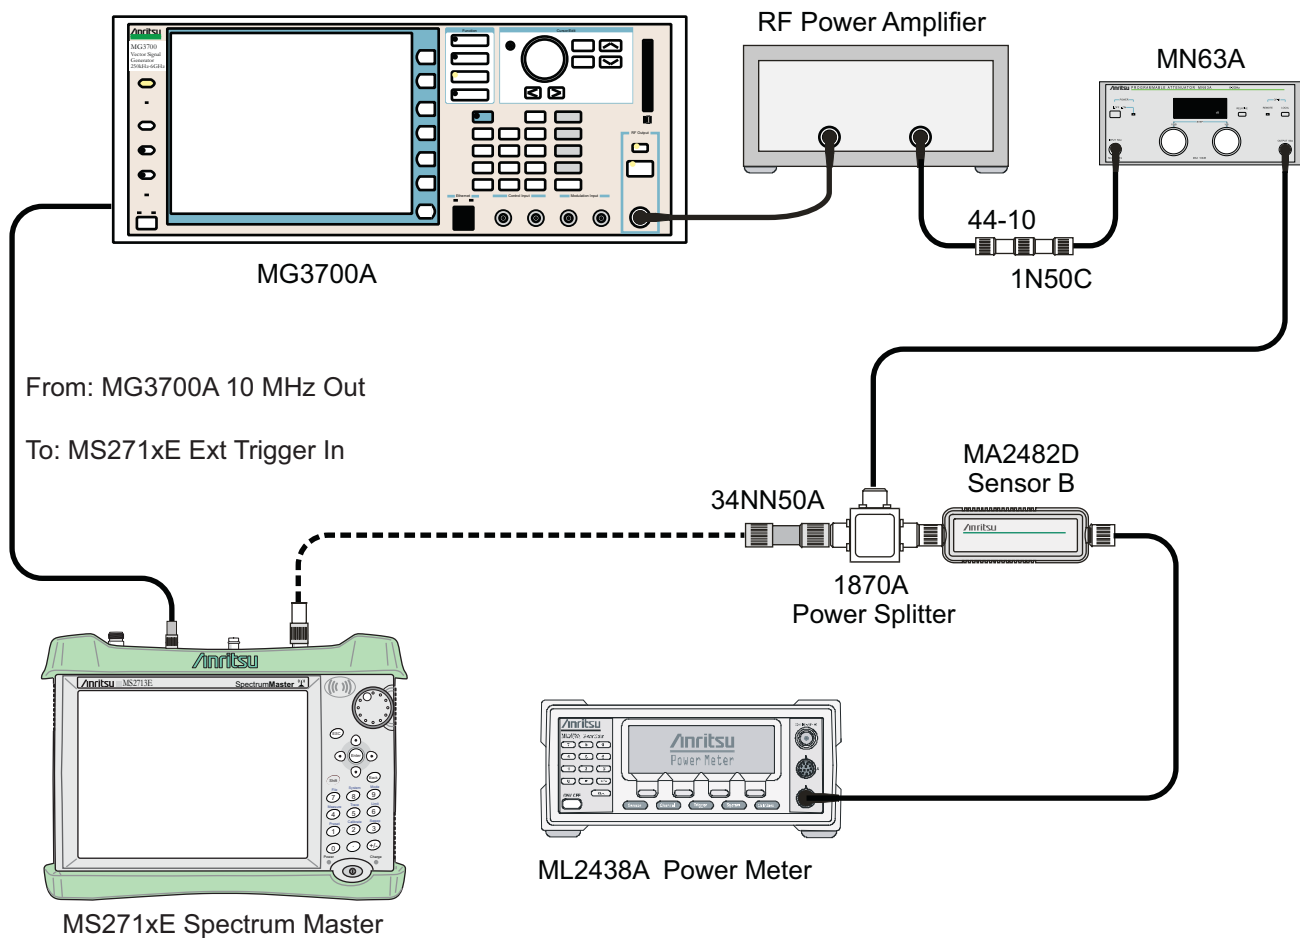

Figure 3-7. ISDB-T SFN Level Accuracy Post-test Setup
26. Remove Sensor A from the Power Splitter and then connect the Power Splitter to the MS271xE Spectrum Analyzer RF In with an N male-to-N male adapter as shown in Figure 3-7 on page 3-26.